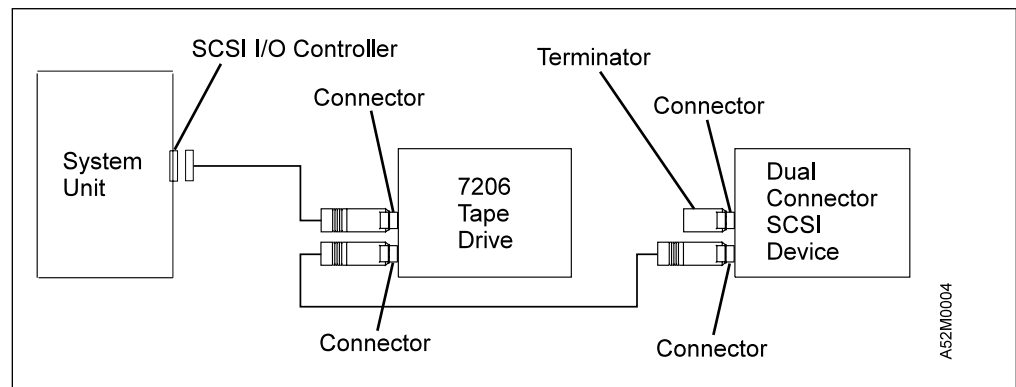
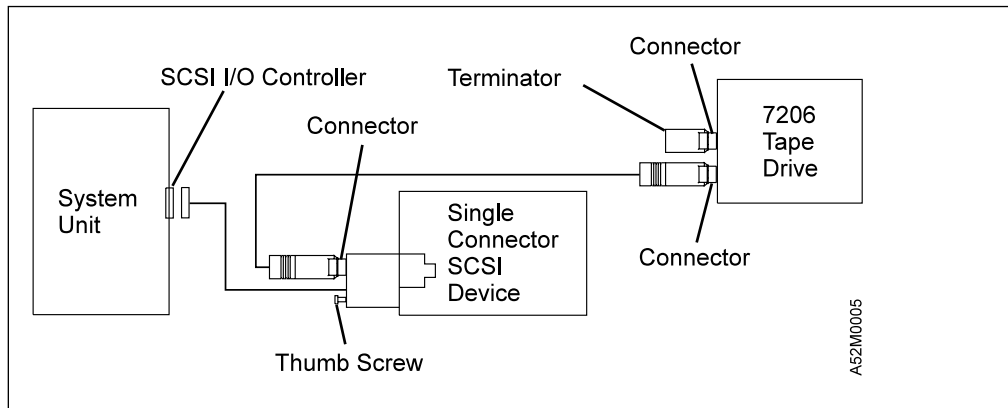
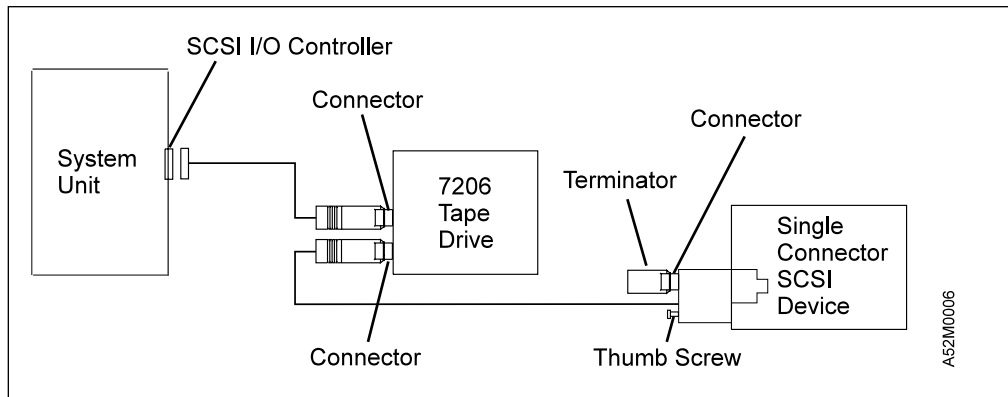

Figure 6. Example of Attaching Multiple SCSI Devices to the System Unit
Figure 7. Example of Attaching Multiple Devices, with the Single Connector Device as the First Device in the Sequence of External Devices
Figure 8. Example of Attaching Multiple Devices, with the Dual Connector Device as the First Device in the Sequence of External Devices
- If the 7206 Tape Drive is part of a multiple-device configuration, connect the SCSI cable to the next device (see Figure 6 on page 7).
- If there is more than one device on the SCSI bus, move the terminator to the last device as shown in Figure 6, Figure 7 on page 8, or Figure 8 on page 8.
**Note:** The SCSI devices can have one (single) or two (dual) connectors on the rear of the device. Figure 7 on page 8 shows a single connector. Figure 8 on page 8 shows dual connectors.